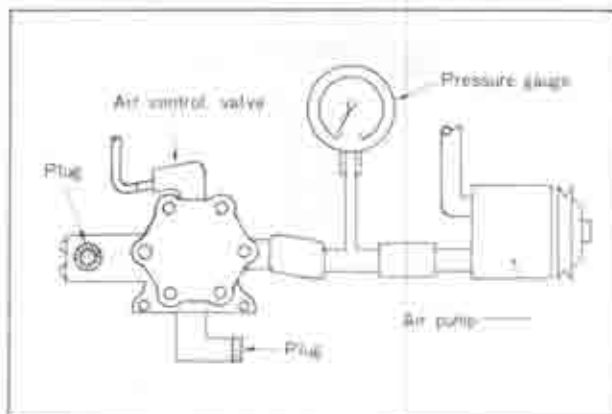

Fig. 1A-36 Checking of air pump
2. Attach a pressure gauge as in Fig. 1A-36.